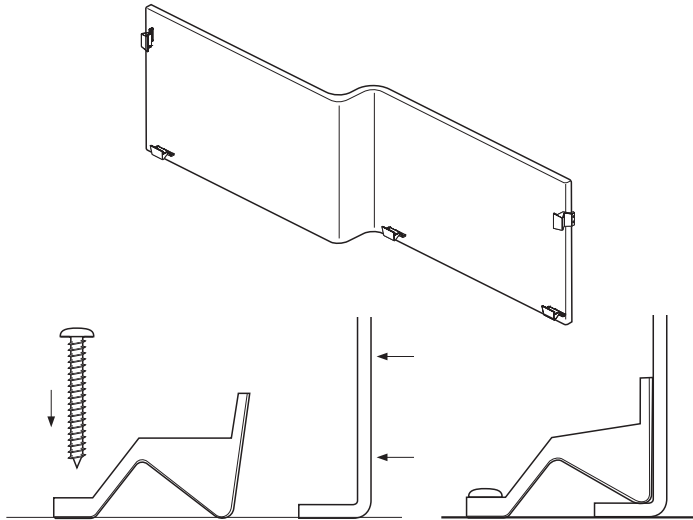

Fig. 7
15. Pre fit front panel ensuring that the ends of the panel are vertical. Mark a line along the front of the panel on the floor. Remove panel and fix the plastic panel clips onto the floor/wall(s) (Figure 7). The front of the block at the floor should be 3mm back from the marked line.